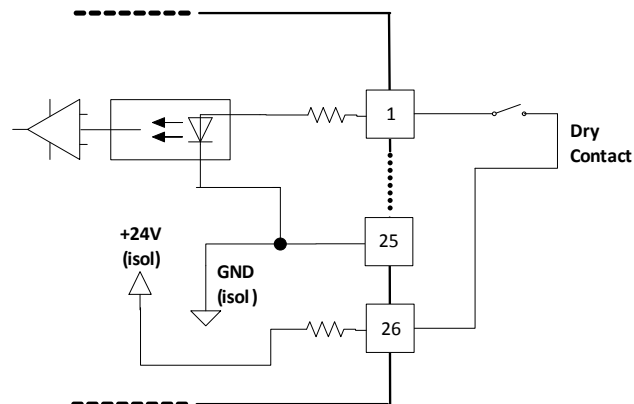

Figure 3-17. Wiring Example—Discrete Input Interface to the SmartCore CPU A5200 Board
- Refer to Figure 3-17 for discrete input wiring.